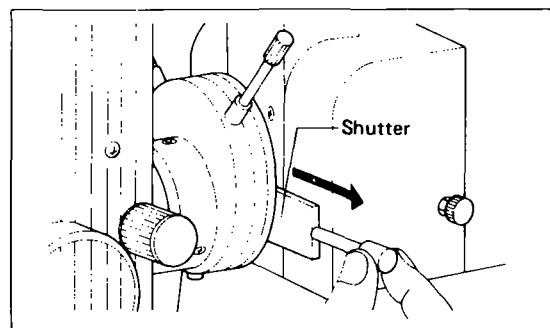

Fig. 14
- 3) Pull the shutter knob to remove the shutter out of the optical path. (Fig. 14)